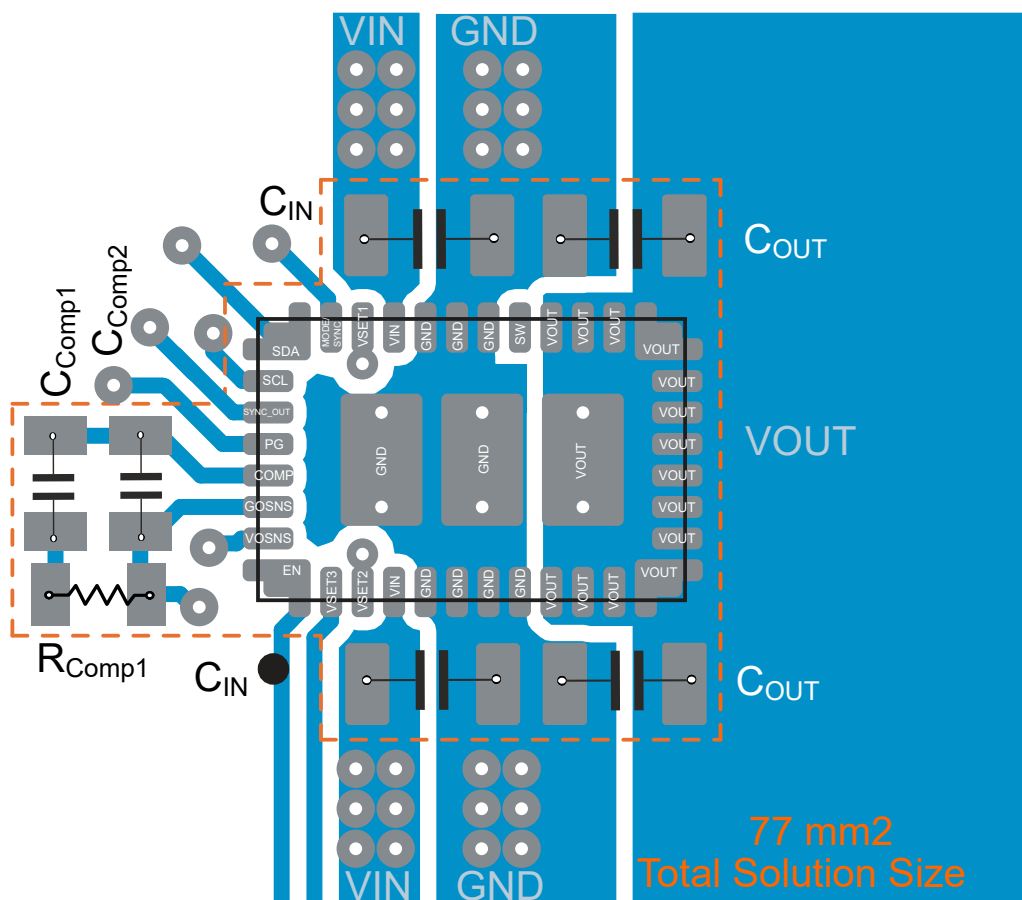

Figure 9-57. Layout Example
- Refer to Figure 9-57 for an example of component placement, routing, and thermal design.